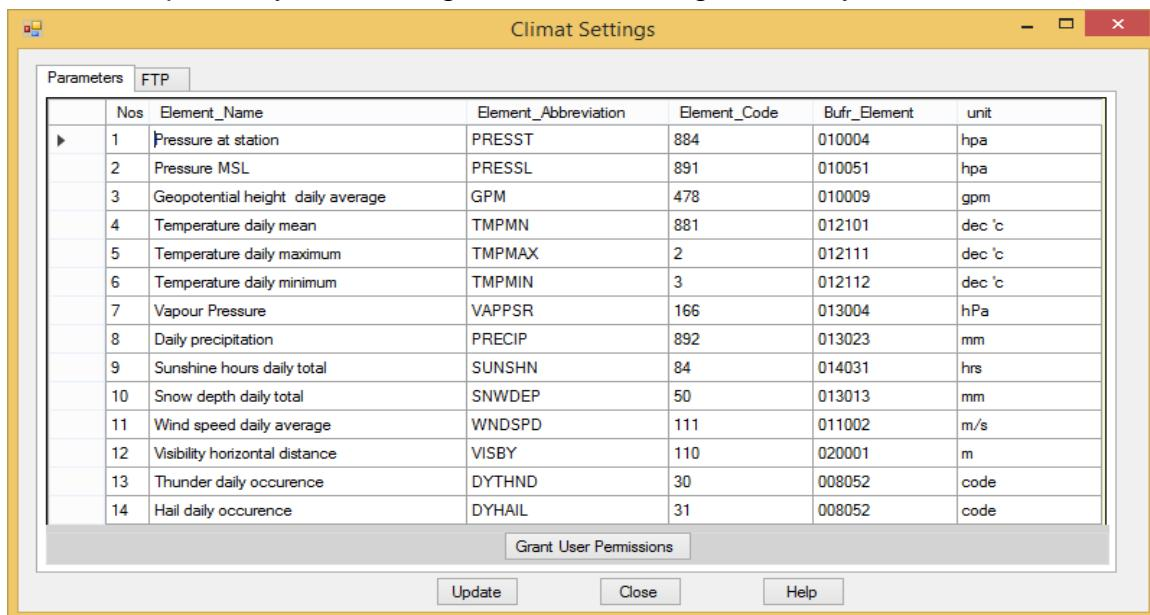

Figure 88c: CLIMAT message **Parameters** (elements) settings
- (vii) **CLIMAT message encoding settings** – The Settings button opens the Settings dialog as shown in **Figure 88c**. The dialog has two tabs; **Parameter** and **FTP** for setting the element codes for data used in CLIMAT encoding and details of the server where the mesage will be sent respectively. The dialogs for these settings are easy to follow